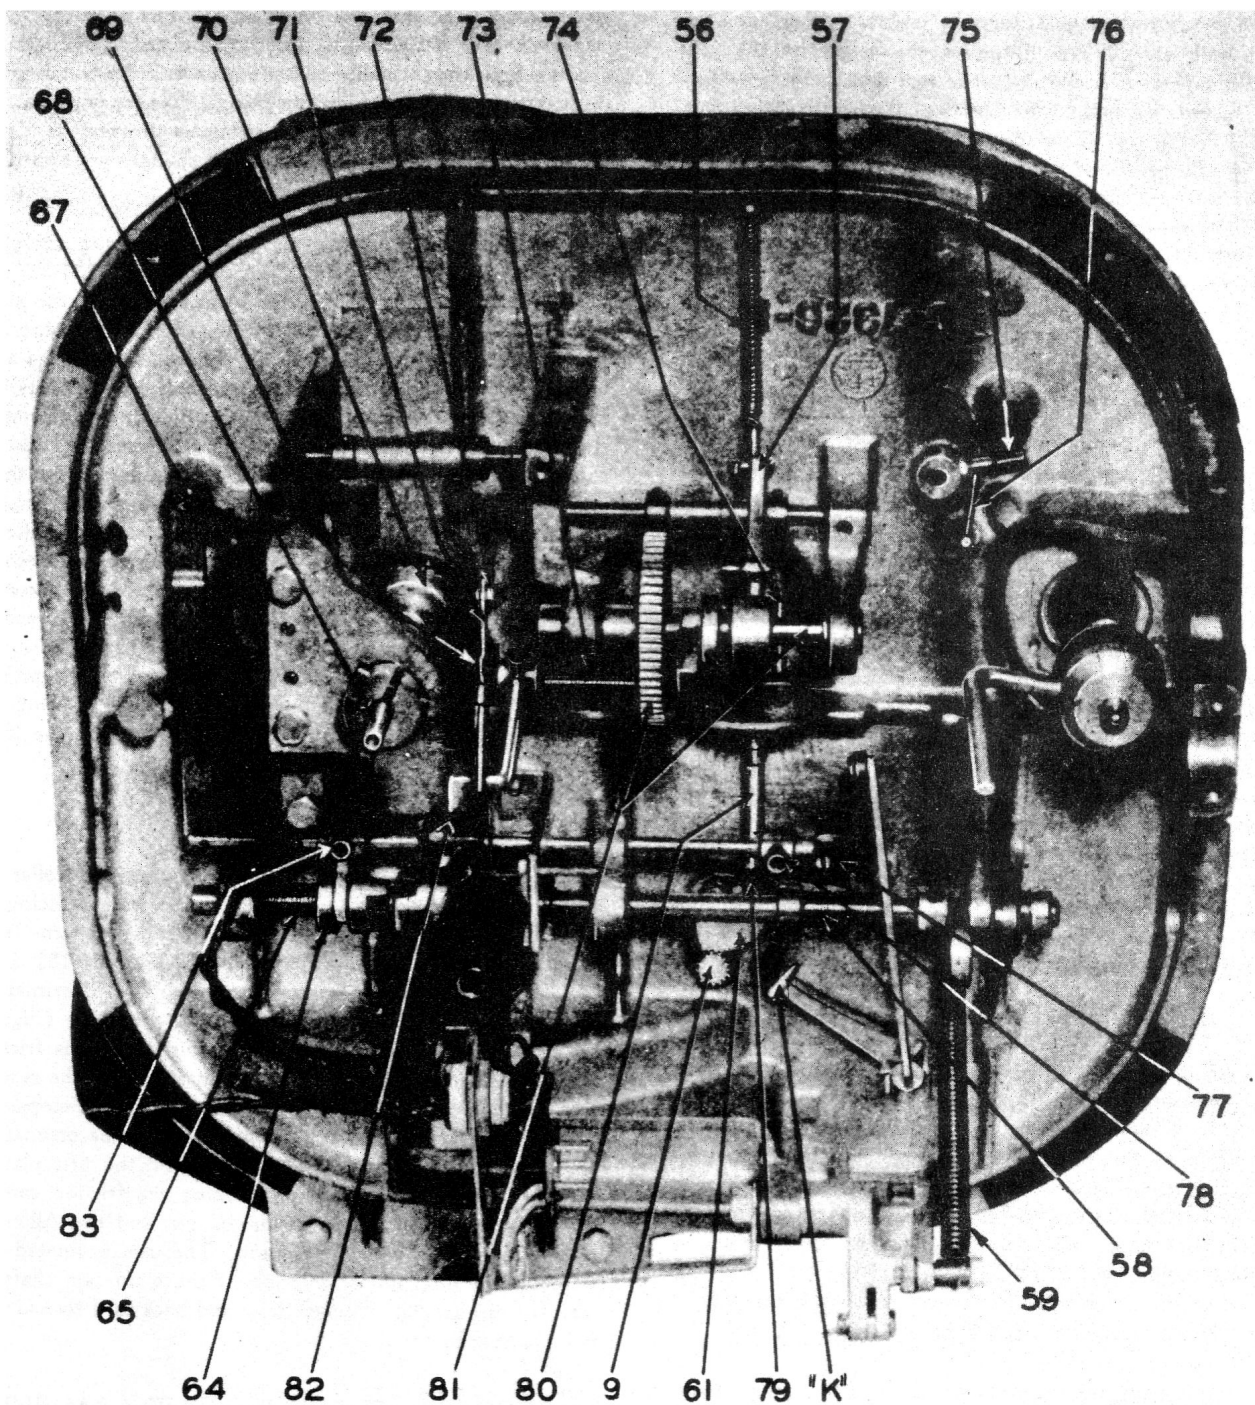

Fig. 4
If the record reversing assembly is parallel with a 12" record as above, it should come around and lay against the reverse guide pin tubing (42) (Fig. 2), if the eccentric cam (77) (Fig. 4) is properly adjusted. This cam can be adjusted, by loosening the screw through the cam and turning it so that the record reversing assembly returns to the reverse guide pin tubing. Care should be taken when making this adjustment so that the crank pin (part of 9, Fig. 1) does not hold the reverse guide away from the pin tubing. This cam should be turned so that the reverse guide assembly just touches the pin tubing; if the cam is turned too far it will allow the reverse guide assembly to hit the pin tubing, but in the reversing position the assembly will not be able to assume a position parallel with a 12" record.
Loosen lock nut "H," Fig. 6, while the record changer is in the reversing position, that is, when the reversing assembly (41) (Fig. 2) is in front of the magazine. Remove the screw (79) (Fig. 4) holding the reverse segment link (80) (Fig. 4) to the reverse segment (61) (Fig. 4) and lengthen or shorten the link, by the link thread until the reversing crank (9) (Fig. 1) stands with the crank pin just barely touching, but not binding, against the front side of the fork (4) (Fig. 2). After the adjustment has been made, lock the link in place with the lock nut "H," Fig. 6.
The clutch throwout lever cam is shown as No. 125 in Fig. 7 and is adjusted by loosening the shoulder screw (69) (Fig. 4) to a sliding tension after the record changer has been stopped in the playing position. The clutch throwout lever
This lever is moved by the record control shaft (116) (Fig. 7) and is held in position by an Allen set screw. It should be positioned on its shaft so that the record reverse cam (85) (Fig. 5) is firmly engaged with its pin (74) (Fig. 4) in the "Both Sides" position. In the "One Side" and "Repeat" positions it should have good clearance with the pin. If any adjustment of this lever is made be sure to check the setting of the Reverse Cam Arm and Roller Assembly (57) (Fig. 4) as instructed in Section 7 of the instructions on replacing a reverse cam.